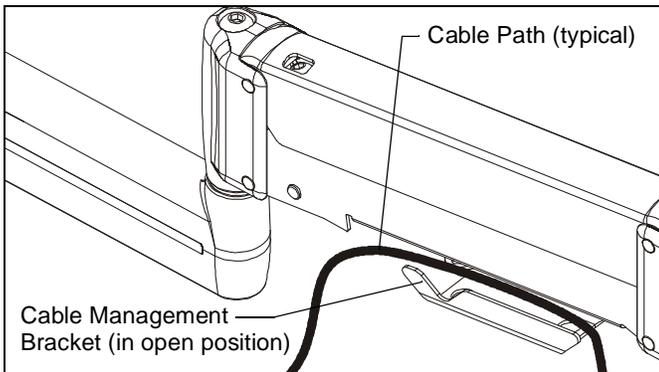

Figure 9
- Carefully insert cables into bracket. (See Figure 9)